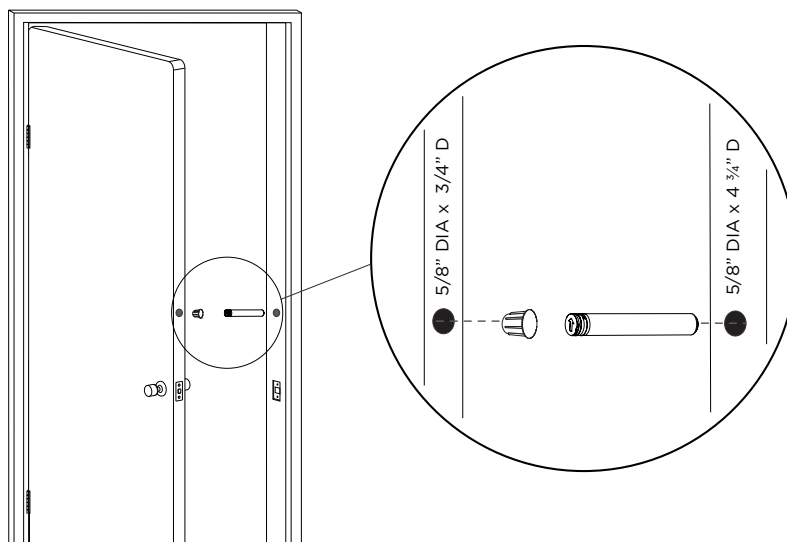

Figure 3: Mounting the Transmitter and Magnet
2. Insert the transmitter housing into the hole until the cap is flush with the door jamb. Refer to Figure 3.